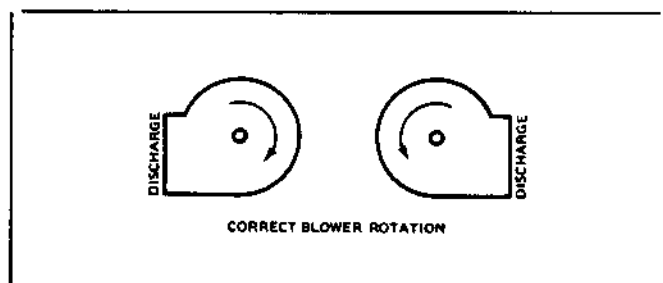

Figure. 14 3 Phase Blower Rotation.
Check for correct blower rotation on 3-phase models. See Figure 14. Correct by interchanging any 2 of the power supply connections.
1. The blower should be providing a strong discharge airflow. On three phase models, the blower should be rotating in the direction shown in Figure 14. If it isn't, correct rotation by interchanging any 2 power supply leads.